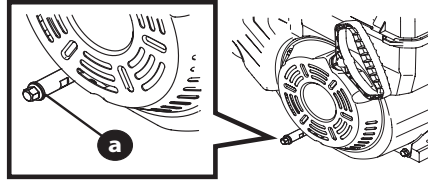

Figure 9
NOTE: Depending on engine model, the oil drain plug may be located on the front and/or rear side of the block, or as an extended tube (shown in Figure 9). Examples are shown in Figure 4 on page 7.
3. Clean area around the oil drain plug (a) (Figure 9).
5. Remove the oil drain plug (Figure 9).